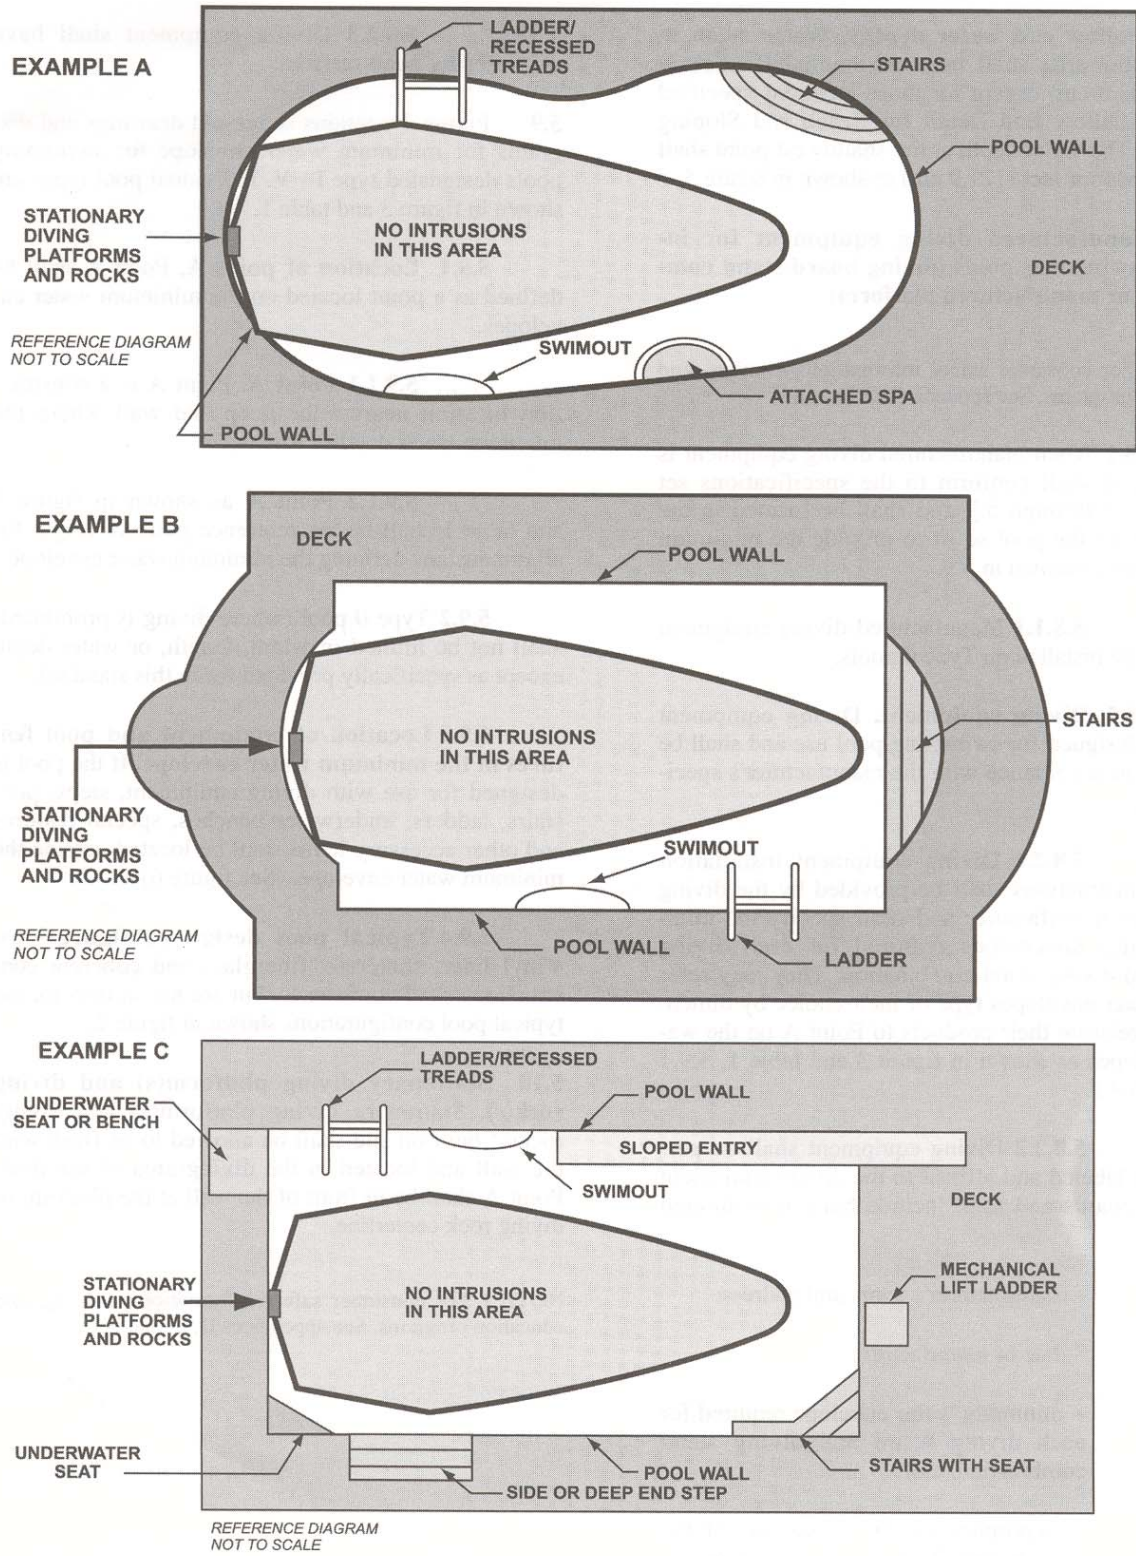

Figure 6- Top view examples of accessory equipment and pool features prohibited in the water envelope
5.9.3 Location of equipment and pool features in the minimum water envelope. If the pool is designed for use with diving equipment, steps, pool stairs, ladders, underwater benches, special features and other accessory items shall be located outside the minimum water envelope. (See figure 6)